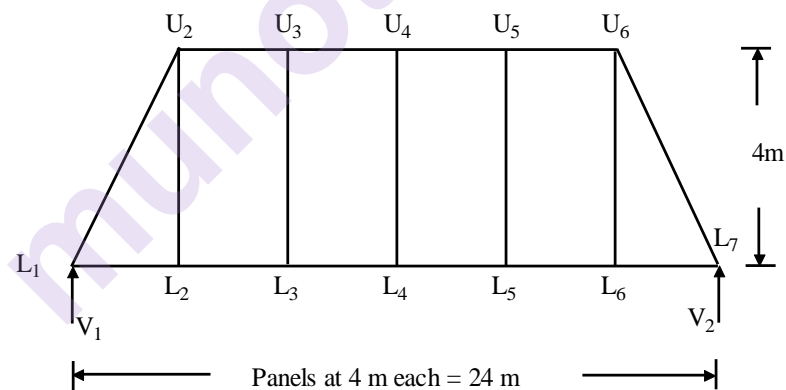

Fig. 6
6. Draw Influence line Diagram for the forces in the members of the through truss shown in fig 6. Find the forces in  $L_2U_2$ ,  $U_2L_3$ ,  $L_2L_3$  and  $U_2U_3$ . 16